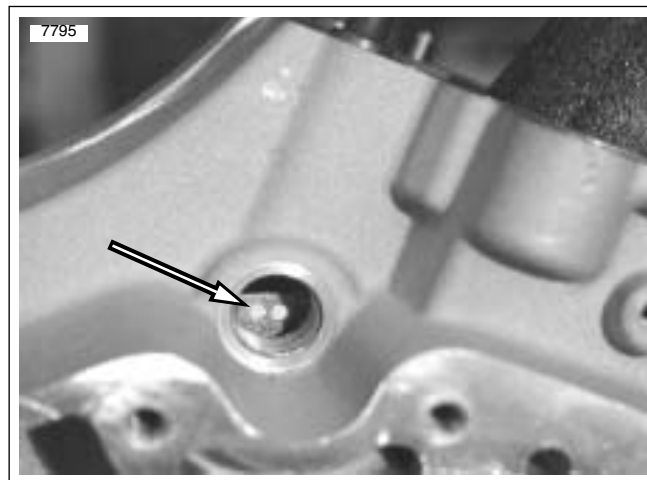

Figure 7-21. Advance Timing Mark for Dynamic Ignition Timing
6. See Figure 7-21. Timing light will flash each time an ignition system spark occurs. Aim timing light into timing inspection hole. The advance timing mark (two dots) should be centered in timing inspection hole.
9. See Figure 7-21. With timing light aimed into inspection hole, rotate module plate until advance timing mark is centered in timing inspection hole.